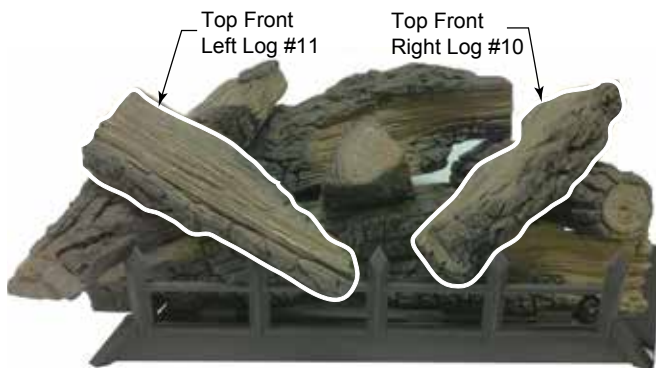

Figure 33
10. Place top front right log (#10) onto mid right log (#6) by placing notch on bottom of log onto locating block on log #6. Rest bottom end of log onto grate bar. *Figure 33*
11. Place top front left log (#11) onto mid left log (#8) by placing notch on bottom of log onto locating block on log #8. Rest bottom end of log onto grate bar. *Figure 33*